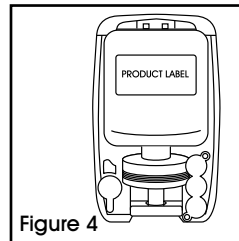

Figure 4
4. Fully insert refill down into lock release until refill clicks into place. Close dispenser. Prime refill pump by placing hands below dispenser until product is dispensed. (See Figure 4) (See Dispenser Use)